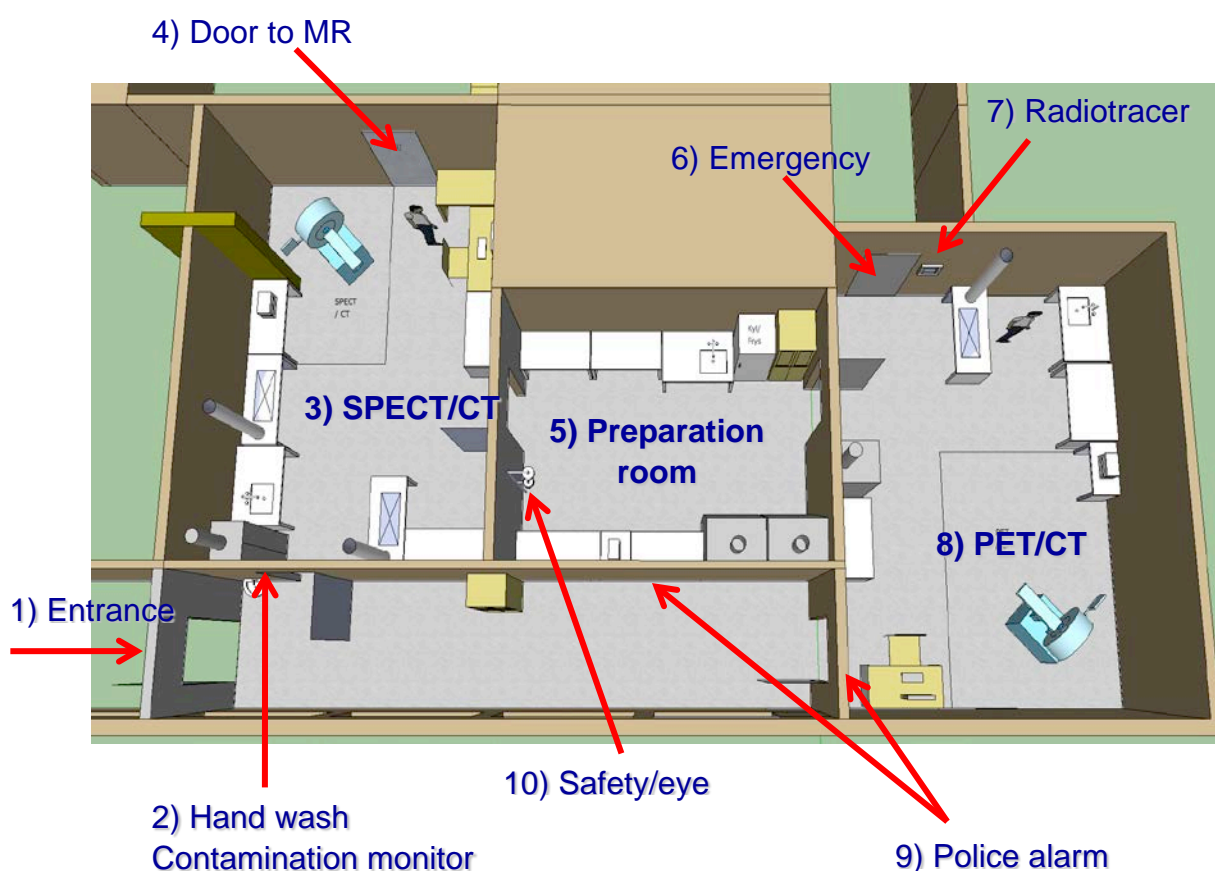

Figure 1. Laboratory space at the PET/SPECT/CT facility in BMC A09
- The function of the different laboratory spaces are described in Figure 1 and in the text below.